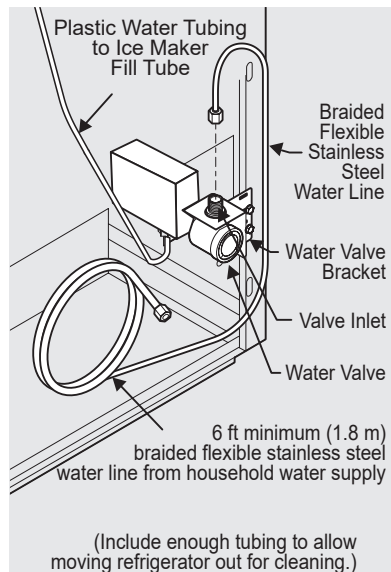

Figure 2
**If you use braided flexible stainless steel tubing** - The nut is already assembled on the tubing. Slide nut onto valve inlet and finger tighten nut onto valve. Tighten another half turn with a wrench; DO NOT overtighten. See Figure 2.